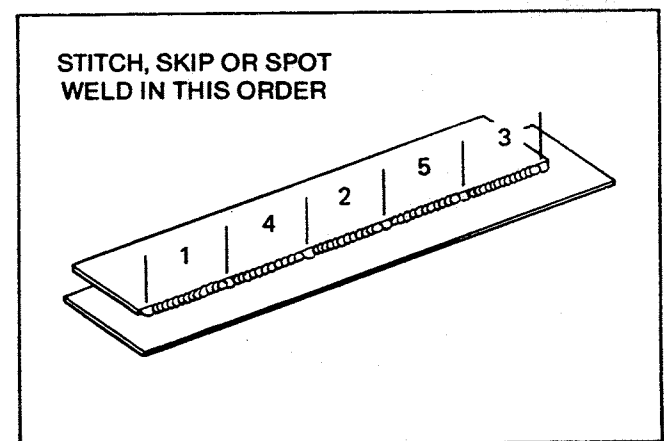

Figure 27
4. Stitch, skip, or spot weld between the tacks, alternating from one end of the panel to the other. See Figure 27